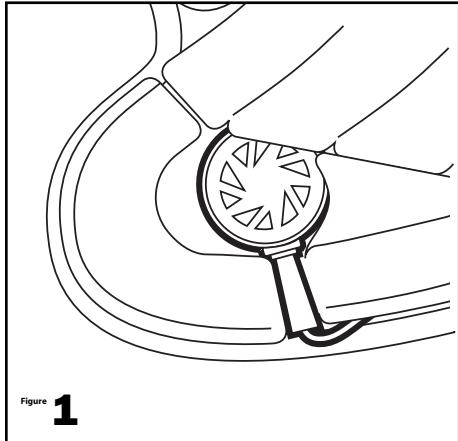

Figure 1
1. Begin by examining the ear pocket area in your helmet. Make sure that there is sufficient room to mount the speaker in the ear pocket. If you will be mounting the J&M DynaPort™ speakers also make sure that you can position the porting tube down along the seam in the cheek pad. **See Figure 1.** (It is important to have the helmet fit and feel the same after the speakers are mounted as it did before the headset was installed.) The porting tube should be positioned to allow the sound pressure from this tube to be directed out of the ear pocket. This will help enhance bass response.